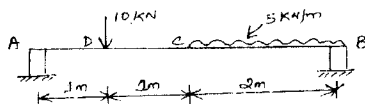

Fig. Q6 (a)
- 6 a. A beam AB of 8 m span is simply supported at the ends as shown in Fig. Q6 (a). Determine (i) Deflection at 'C' (ii) Maximum deflection. Take $E = 2 \times 10^5 \text{ N/mm}^2$ & $I = 1000 \text{ cm}^4$. (14 Marks)